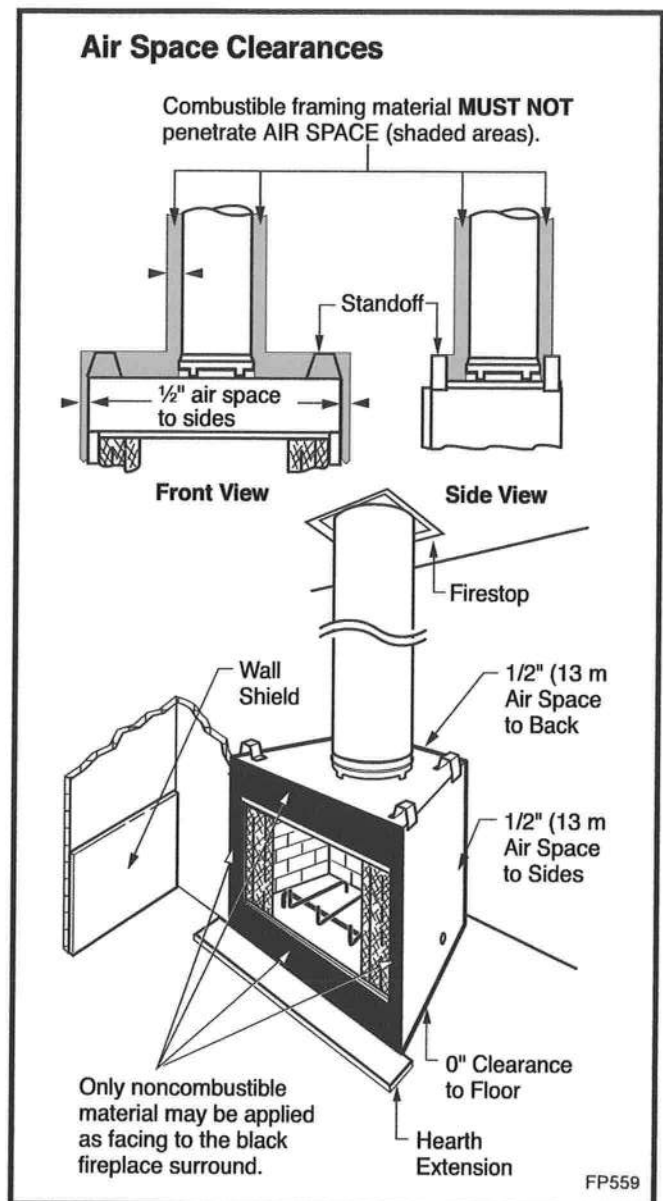

Fig. 20 Minimum clearances to combustibles.
**CAUTION:** All joints between the finished wall and the fireplace surround (top/sides) must be sealed with noncombustible material to prevent cold air leakage into the room. Only noncombustible material may be applied to the facing of the fireplace surround. (Black painted area) (Fig. 20)
Adjacent combustible side walls that are within minimum dimensions shown in Figure 23 of the fireplace opening must be protected with MHSC Wall Shield Model SP40 or a specifically built wall shield described in Figure 20.
The special wall shield design described in Figure 20 is an alternate method of adding protection to side walls and can be used in place of the SP40 with the same wall clearances specified for the SP40. Rt must = 1.85 minimum.